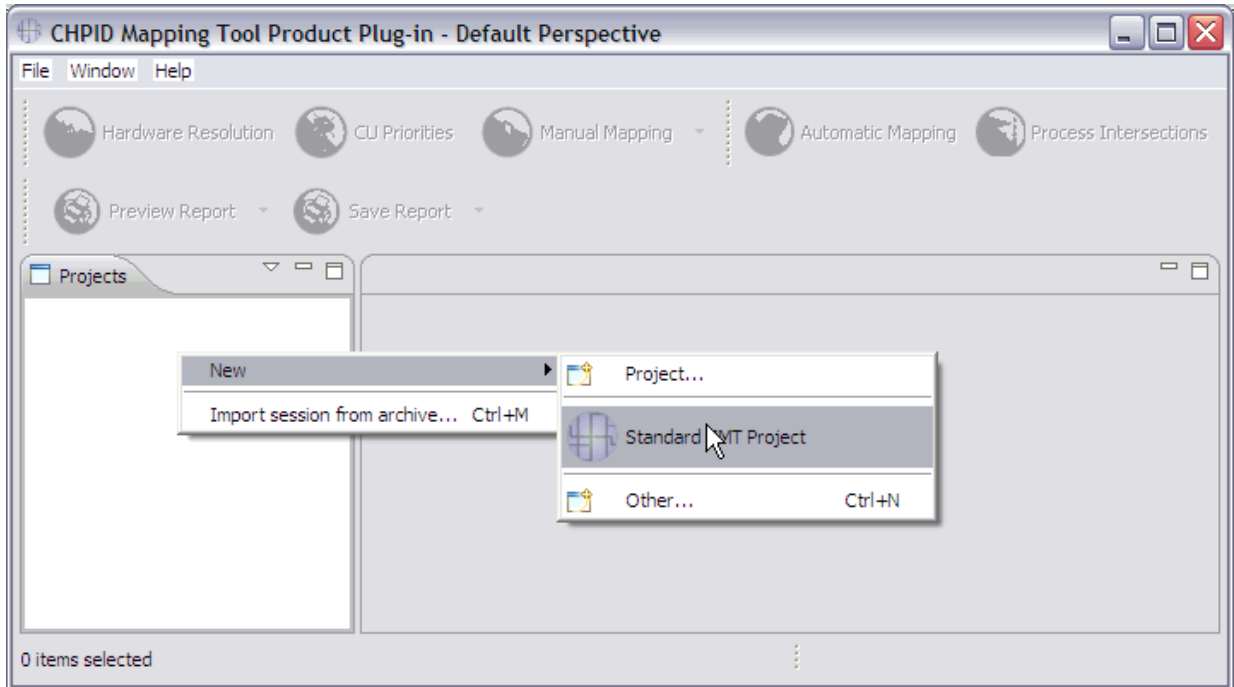

Figure 6. Creating a new project
1. Right-click in the Projects pane (by default the leftmost pane), and click **New > Standard CMT Project**. Figure 6 on page 10 shows this sequence.